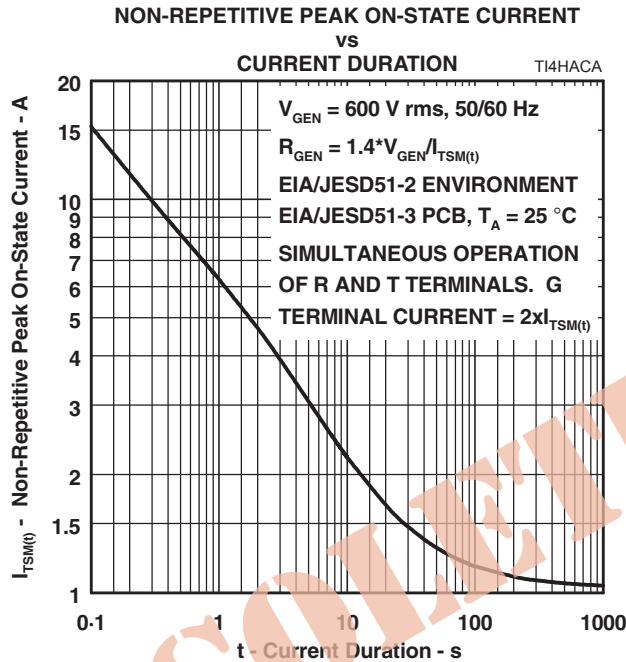

Figure 8.
5. EIA/JESD51-2 environment and EIA/JESD51-3 PCB with standard footprint dimensions connected with 5 A rated printed wiring track widths. See Figure 8 for the current ratings at other durations. Figure 8 shows the R and T terminal current rating for simultaneous operation. In this condition, the G terminal current will be $2xI_{TSM(t)}$, the sum of the R and T terminal currents. Derate current values at $-0.61\text{ }^\circ\text{C}$ for ambient temperatures above 25 $^\circ\text{C}$.
The protector can withstand the G return currents applied for times not exceeding those shown in Figure 8. Currents that exceed these times must be terminated or reduced to avoid protector failure. Fuses, PTC (Positive Temperature Coefficient) resistors and fusible resistors are overcurrent protection devices which can be used to reduce the current flow. Protective fuses may range from a few hundred milliamperes to one ampere. In some cases, it may be necessary to add some extra series resistance to prevent the fuse opening during impulse testing. The current versus time characteristic of the overcurrent protector must be below the line shown in Figure 8. In some cases, there may be a further time limit imposed by the test standard (e.g. UL 1459 wiring simulator failure).